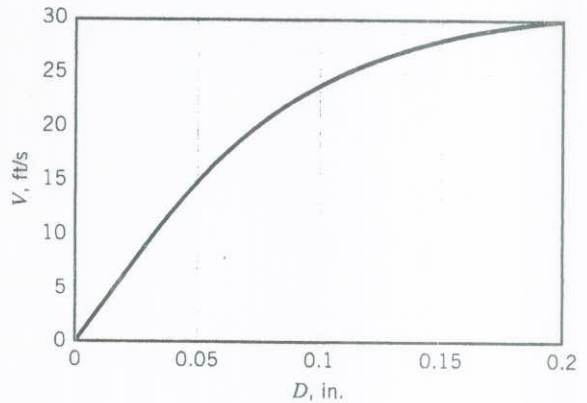

FIGURE P3.28
3.28 (See Fluids in the News article titled "Incorrect raindrop shape," Section 3.2.) The speed,  $V$ , at which a raindrop falls is a function of its diameter,  $D$ , as shown in Fig. P3.28. For what sized raindrop will the stagnation pressure be equal to half the internal pressure caused by surface tension. Recall from Section 1.9 that the pressure inside a drop is  $\Delta p = 4\sigma/D$  greater than the surrounding pressure, where  $\sigma$  is the surface tension.
Thus, there are 2 unknowns,  $D$  and  $V$ , and 2 equations, Eq. (1) and Fig. P3.28. The solution is given by the intersection of these two  $D$ - $V$  graphs as shown below.